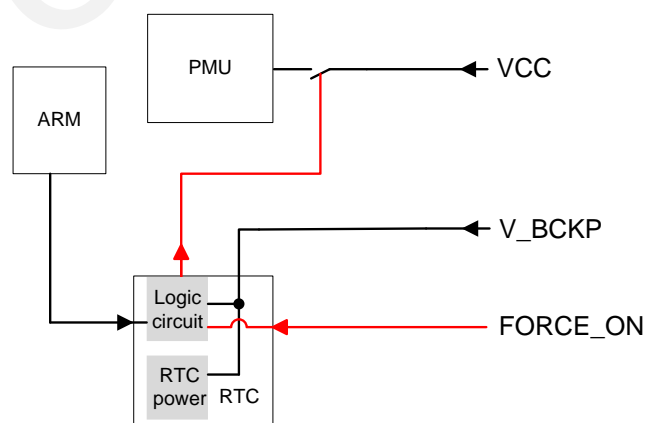

Figure 3: Internal Power Construction
- Sending command: "\$PMTK225,4*2F" (the red line opens the switch in Figure 3) to enter into backup mode forever. The only way to wake up the module is pulling the FORCE_ON high (the red line closes the switch in Figure 3). The typical current consumption for this way to enter into backup mode can be 840uA.